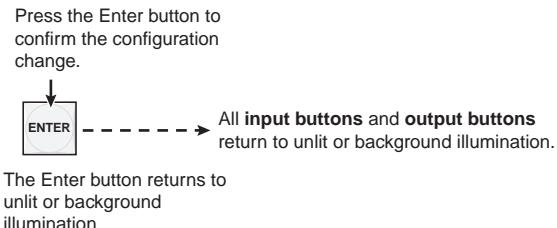

Figure 3-15 — Press the Enter button
5. Press and release the Enter button (figure 3-15).